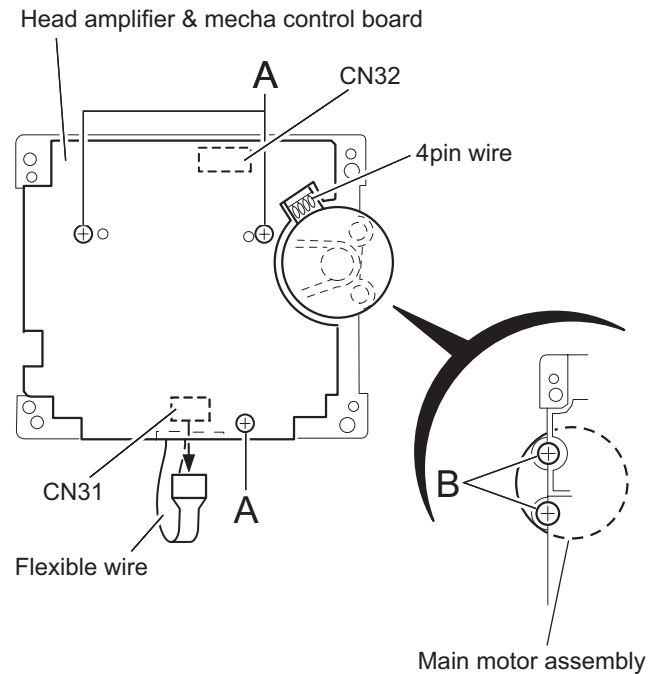

Fig.4
2.2.2 Removing the head amplifier & mechanism control board (See Fig.4)